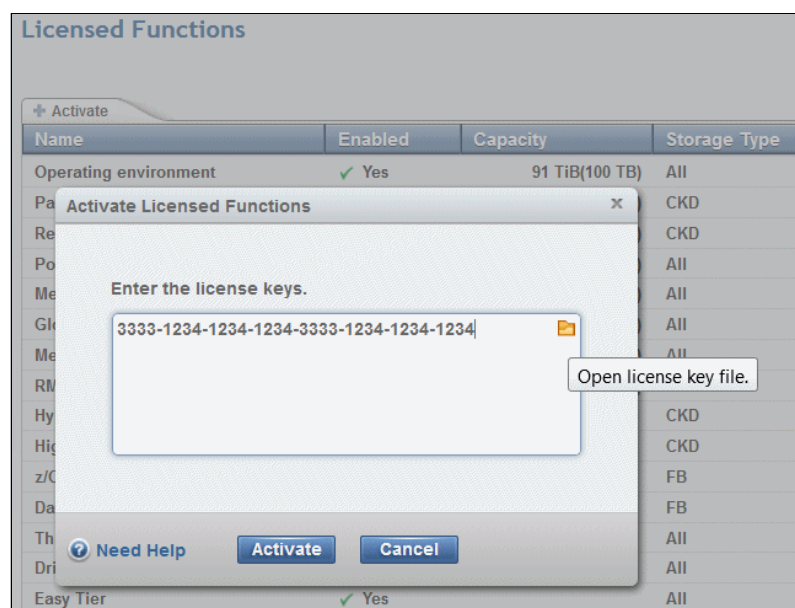

Figure 9-14 Activating additional licenses in the GUI
- Click **Settings** → **System** → **Licensed Functions** → **Activate** in the GUI to enter the activation codes after the initial installation. Click the yellow symbol to import the XML file, or alternatively, you can enter individual license keys, as shown in Figure 9-14.